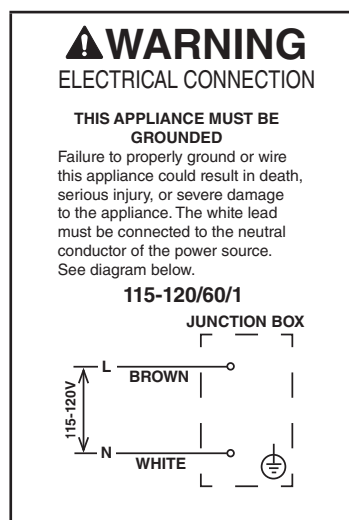

Fig. 5
- Electrical connection must be made in accordance with the instructions on the "WARNING" tag, provided with the pig tail leads in the junction box of the ice dispenser. See Fig. 5.